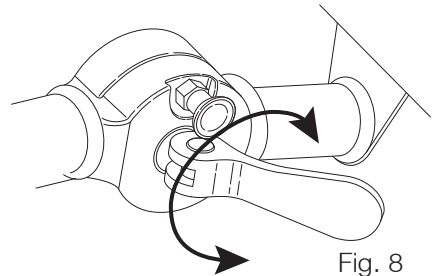

Fig. 8
2. For fine adjustment, the cam lever can be rotated in both directions. (Fig. 8)